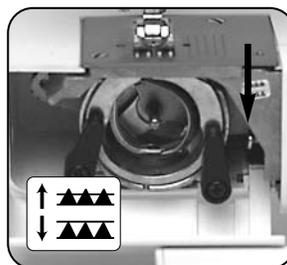

Fig. 7
4. Push down on the drop feed lever and the feed teeth will drop below the needle plate [Fig. 7].